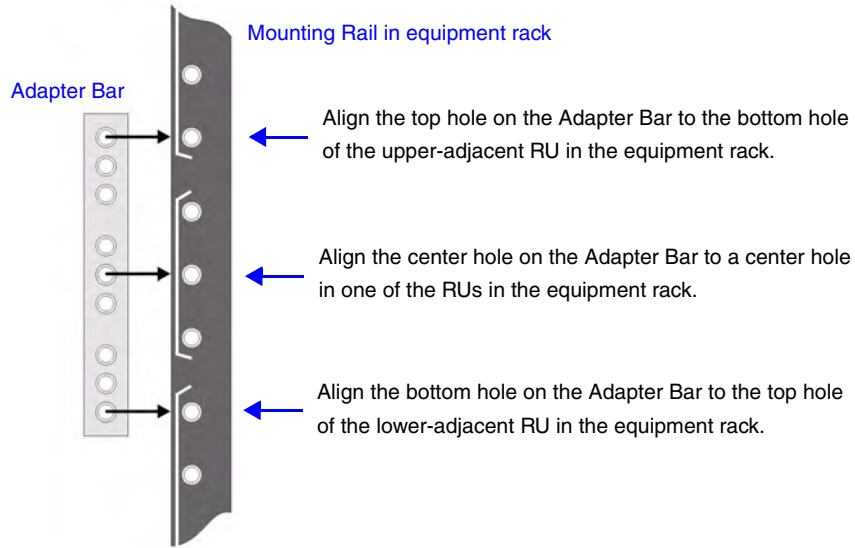

**FIG. 62** Mount the Adapter Bars to the Rail assemblies
2. Attach an Adapter Bar to the rear of each of the two Rack-Rail assemblies (FIG. 62). Once the Adapter Bars have been attached to the front and rear of both Rack-Rail assemblies, the Rack-Rails are ready to use.